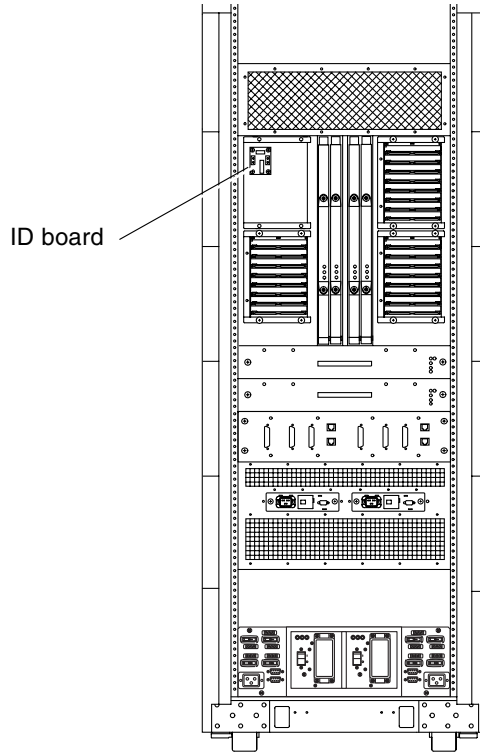

FIGURE 12-38 Removing the ID Board From the Centerplane—Sun Fire 6800 System
5. Reaching into the opening created by removing the I/O assembly, grasp the ID board by the edges and remove it from the centerplane (FIGURE 12-38).
2. Reach into the opening created by removing the I/O assembly and connect the ID board to the connectors on the centerplane (FIGURE 12-38).